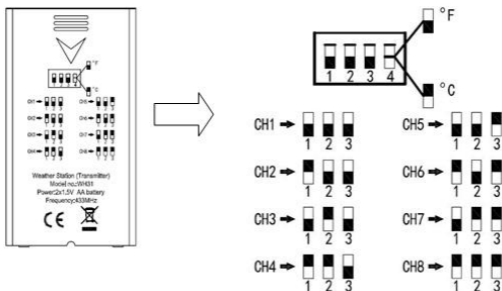

Figure 4: Dip Switch diagram
**Channel Number:** This device supports up to eight sensors. To set each channel number, change Dip Switches 1, 2 and 3, as referenced in Figure 4.